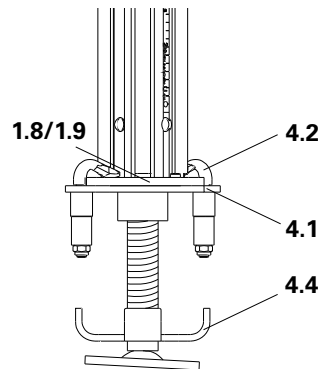

Fig. A2.15
2. Hit clamping claws (4.2) with a hammer over the prop base or head plate. Tilting Base MKF is connected to the prop. (Fig. A2.15)